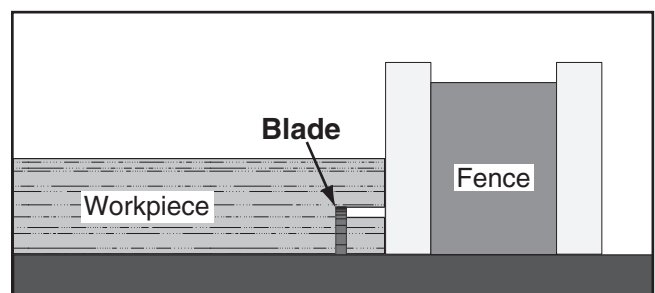

Figure 71. Second cut to create a rabbet.
7. Lay the workpiece flat on the table, as shown in **Figure 71**, adjust the saw blade height to intersect with the first cut, then perform the second cut to complete the rabbet.